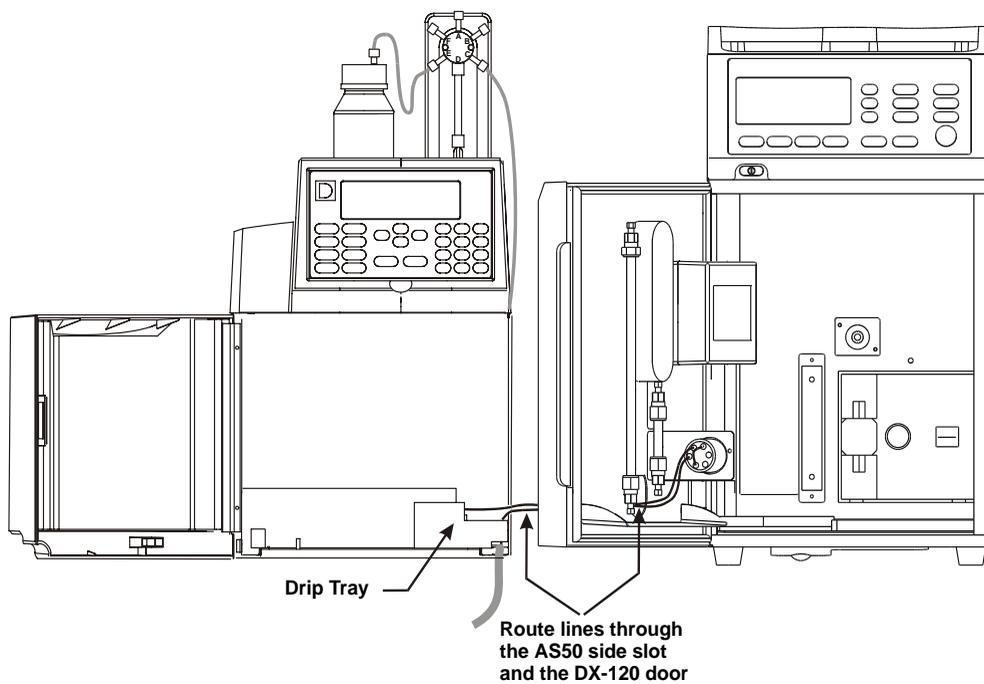

Figure B-12. DX-120 Injection Valve Connections
3. The needle seal line that extends from the inject port in the autosampler is coiled inside the door, on the right side. Route this line through the autosampler right side slot and through the opening below the injection port on the DX-120 front door (see Figure B-12).